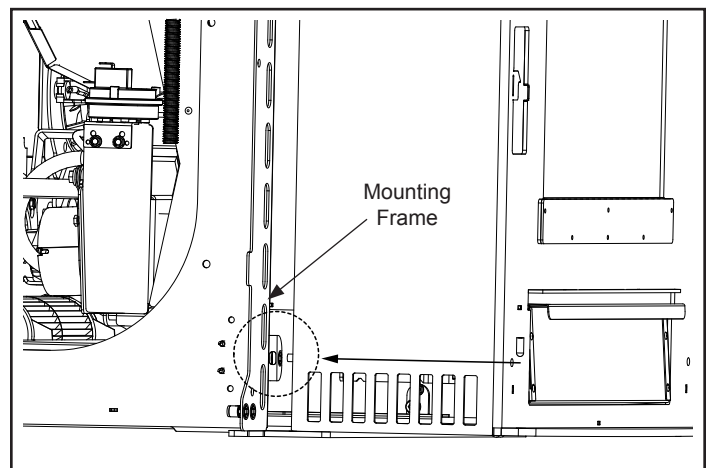

Figure 2.7 - Align bolt with tightening nut.
- Slide unit back into the mounting frame to within an 1/8" of the surround face. Insert the T-Handle allen wrench through the holes in the front of the unit and push bolt inward until you see it align with the tightening nut located on the mounting frame. While pushing inward tighten bolt, Figure 2.7.